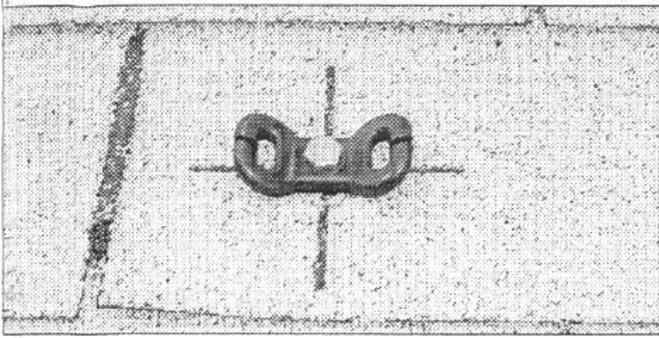

FIGURE 9
7. Proceed to the lower chalk lines previously snapped on the roof for the strap hold-down brackets. Mark a hole 2" to the side of the first panel and continue marking holes on the chalk line centered exactly between the absorber surfaces until you reach the last collector. Mark the last hole the same 2" to the side of the last panel. Drill a pilot hole and apply roof sealant at each of these locations. Bolt the strap hold-down brackets on the roof. Refer to Figure 9. It is OK to step on the collectors as long as you stay one foot away from the top and bottom headers.